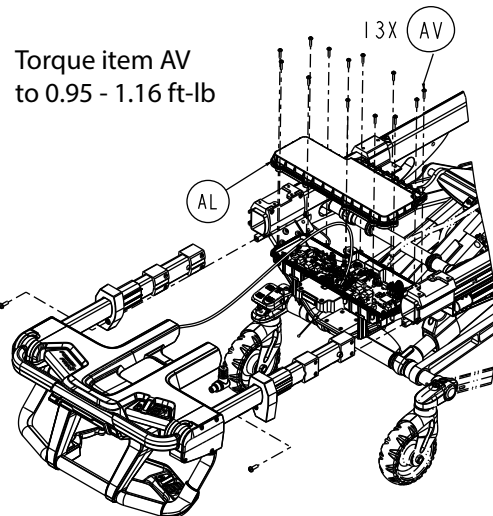

Figure 75 – Remove the FEIB enclosure screws
8. Using a T20 Torx driver, remove the thirteen round washer head tapping screws (AV) that secure the top FEIB enclosure (AL) to the bottom FEIB enclosure (Figure 75). Save the screws.